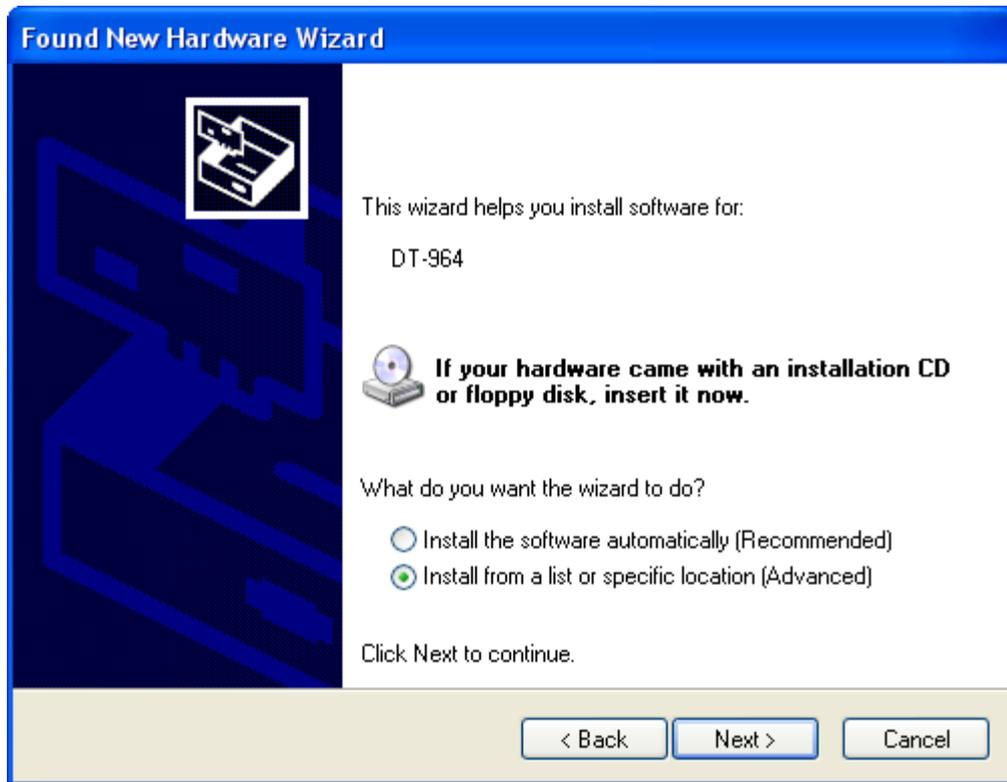

Fig.6. Selecting a type of installation
- Select **Install from a list of specific location** and click  (Fig. 6)